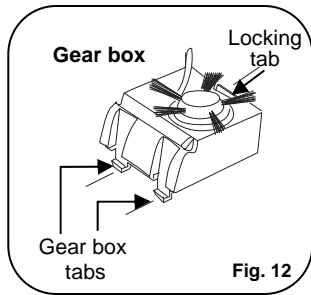
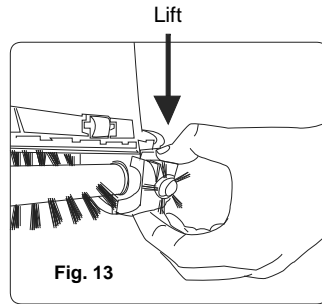

Fig. 12
Fig. 13
4. Push in on the locking tab of the gear box and lift the gear box to remove. (Fig. 12 & Fig 13)
2. Push in on the locking tab of the gear box and lift gear box to remove. (Fig. 12 & 13)